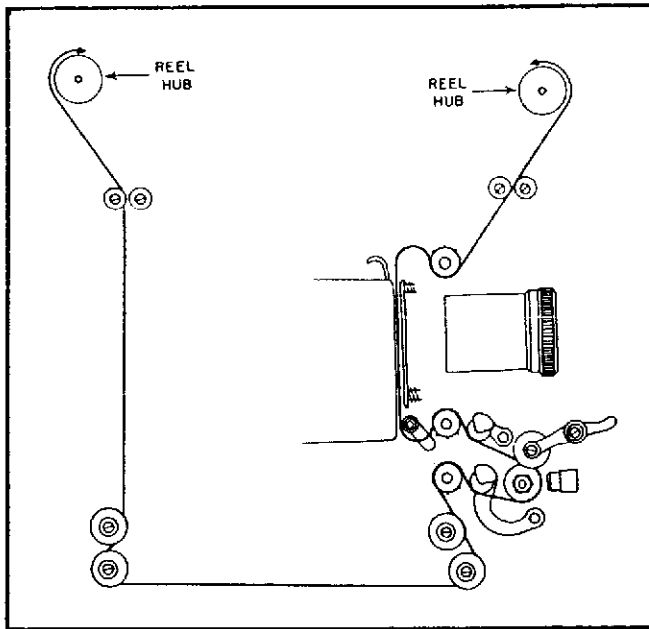

Figure 15. Projector Threading Diagram
a. Refer to figure 15. Unwind about four to five feet of film leader. Pass the film between the two film guide rollers at the top of the projector case. Lower the feed sprocket film shoe away from the feed sprocket and place film under the feed sprocket, making sure that the film perforations engage the sprocket teeth. Push up the feed sprocket film shoe to lock film in place under the feed sprocket.
i. Hold the take-up reel stationary and pull the take-up belt downward a few times to take up the film slack. This completes the threading of the projector. Figure 15 shows the complete threading path in diagram form.